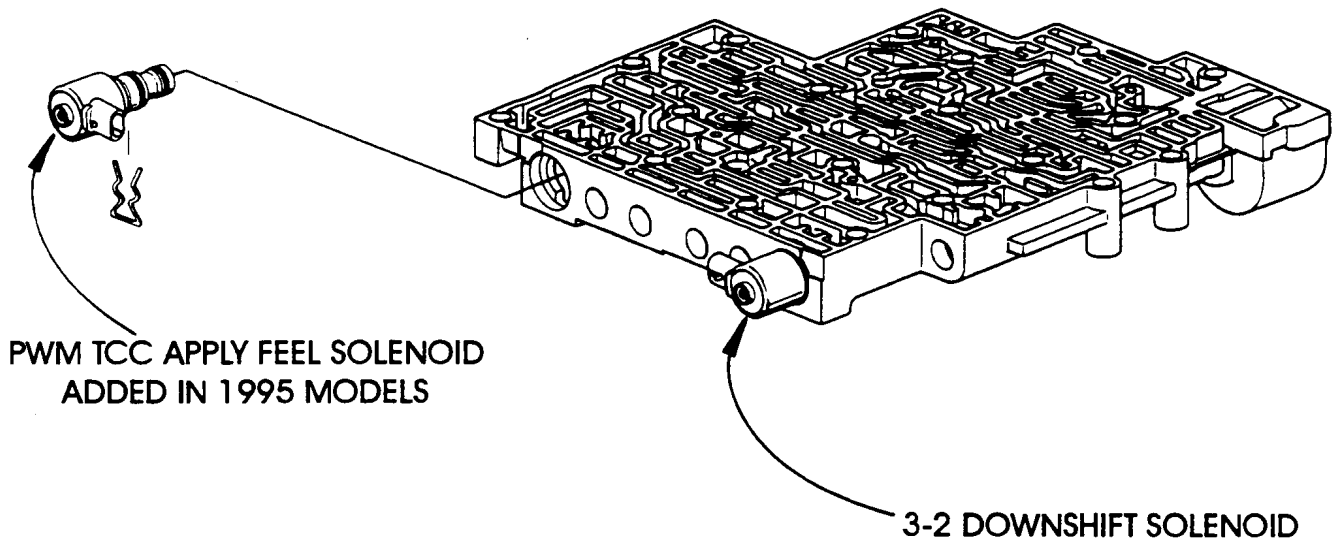

Figure 1
(1) VALVE BODY CASTING - 1995 models are now machined to accept the added TCC PWM Solenoid, as shown in Figure 1. The added TCC PWM Solenoid is exactly the same and will interchange with the 3-2 downshift solenoid (See Figure 1).